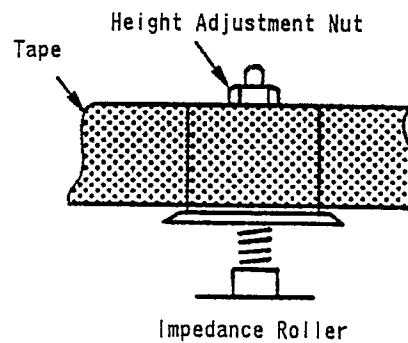

Fig. 5-4.
6. If any curling or creasing is noted, adjust tape guide roller and impedance roller first. In this case, adjust the impedance roller in both PLAY and REV modes so that tape runs as shown in Fig. 5-4.